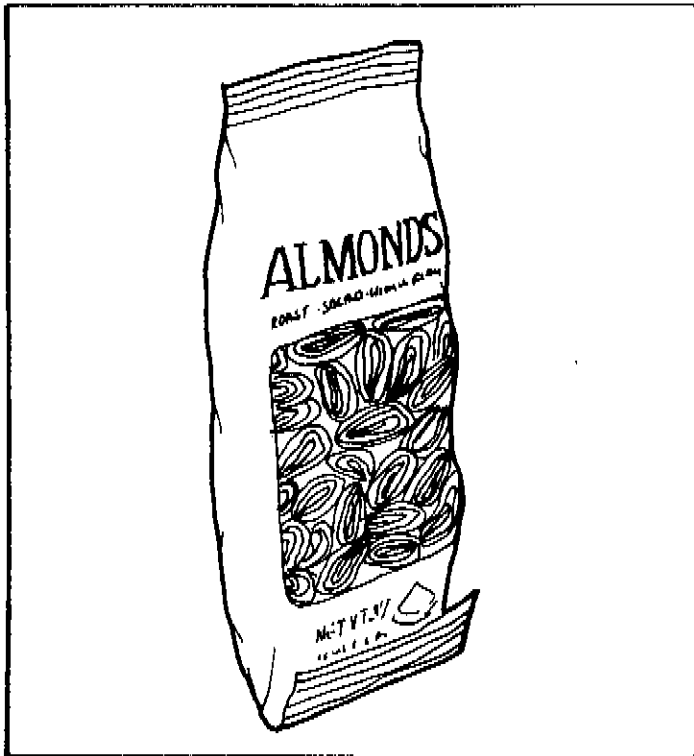

Figure 6. FOLD BAGGED ITEMS BOTTOM EDGE FORWARD AND UP.
8. **BAGGED OR BOXED ITEMS** in the 6-selection shelves if not loaded properly could be a problem. The sealed edge of the bag may get under the spiral wire causing the product to hang up after it has been vended. It is recommended that the lower edge of these types of product be folded forward and up (see Figure 6) next to the product before inserting into the spiral space. It is